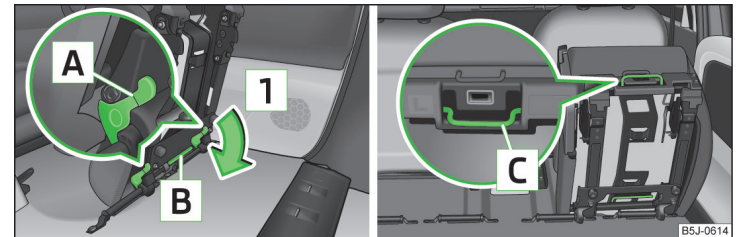

Fig. 59 Unlocking the folded forward seat/carrying handles on the seat cushion
- Unlock the folded seat by pressing seat locks **A** » Fig. 59 in the direction of arrow **1**.
- Fold the outer seat forwards » page 71, Fold down seat backrest and seat fold down completely and unlock » Fig. 59 on page 71.